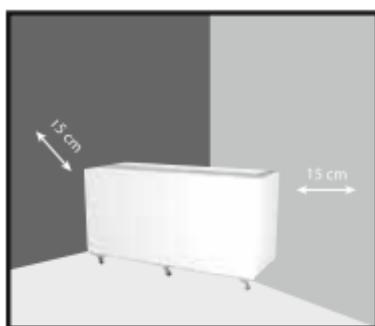

Fig. 4
- 2- When you place it on the corner, leave a clearance of 150 mm (15 cm) on its back so that it faces the corner. You may lean the side on the corner to the wall. (Figure 4)